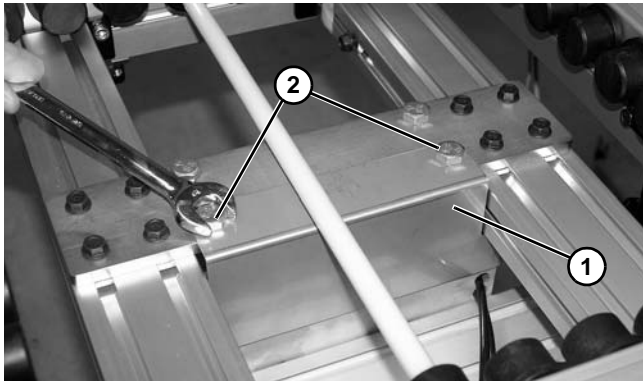

Figure 90
3. Remove two bolts (**Figure 90, item 1**) and smaller cylinder guard (**Figure 90, item 2**).